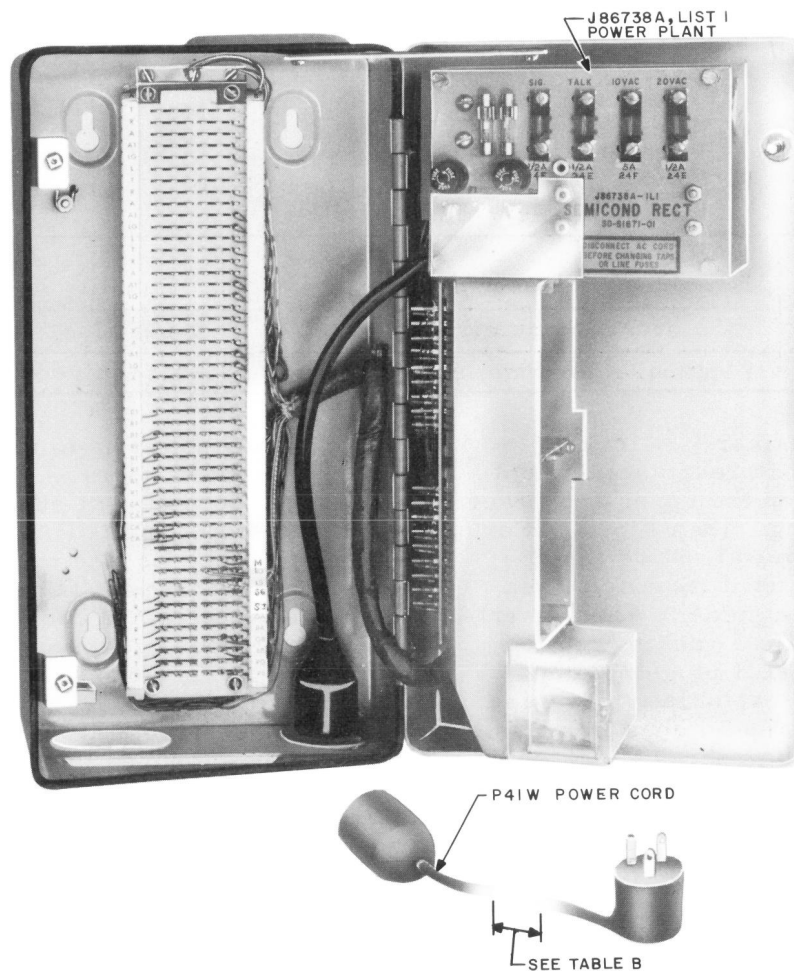

Fig. 5 - 551A Key Service Unit
- 551A KSU (Fig. 5) is factory equipped with a small plug-in power plant.
3.05 A power input cord must be obtained separately. (See Table B.) The cord, equipped with a 3-prong right angle plug on one end and a 3-prong twist-lock connector on the other, mates with the power input cord attached to the J86738A, List 1 power plant. (See Fig. 5.)